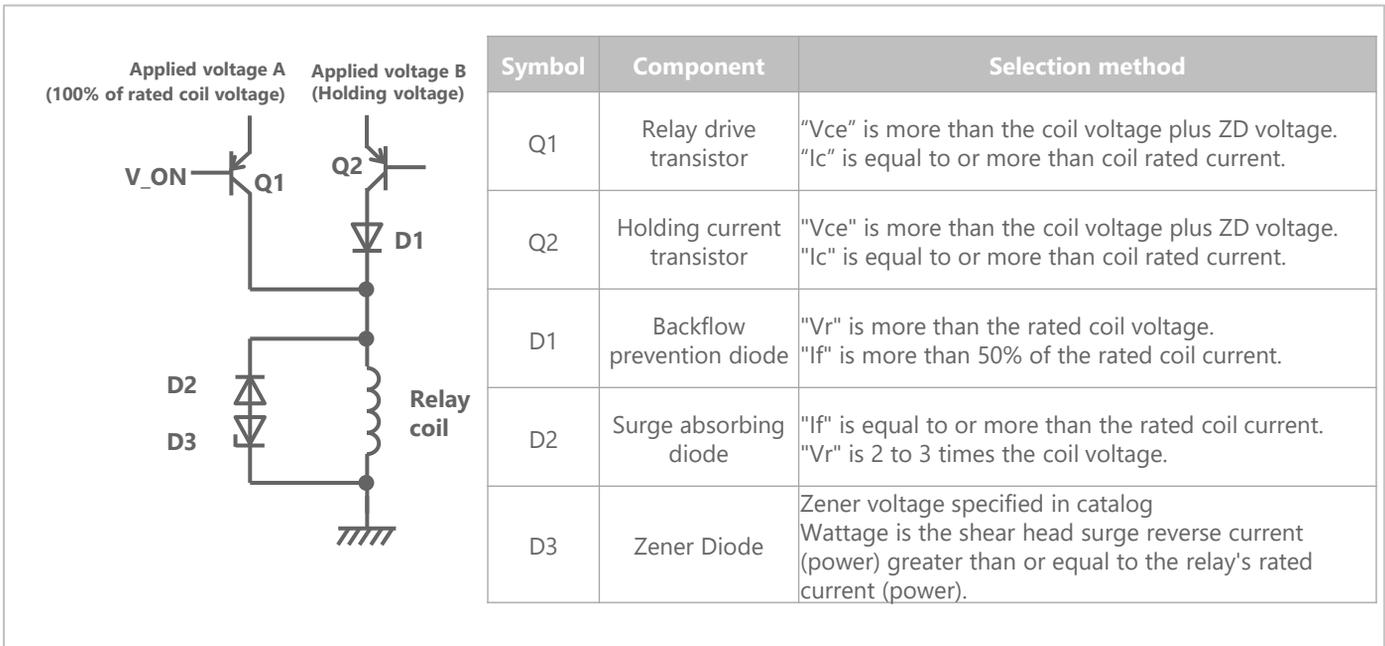

Figure 20: Recommended holding voltage circuit example with switch, and peripheral component selection method
If a low voltage (B) for holding the coil is available in addition to the rated coil voltage (A), it can be switched to the holding voltage by means of a switch. Switching to 50% voltage will reduce the current to 50%, thus greatly reducing the power consumption of the entire circuit to 1/4 of the rated value. (Figures 20 and 21)